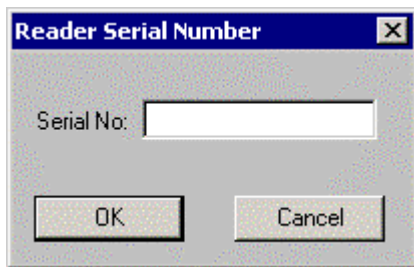

Figure 5-1 The Reader Serial Number Dialog Box
- 4 The monitor will present a welcome screen and the *Reader Serial Number* dialog box (Figure 5-1). Enter the serial number and press **OK**.